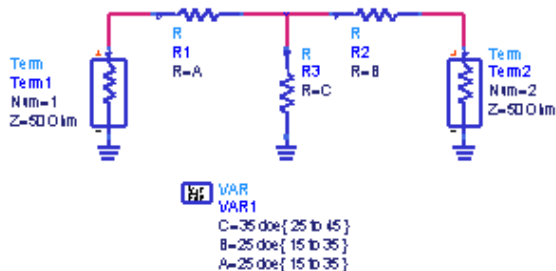

Figure 4-14. Schematic with Modified Var/Eqn Component
10. Click **OK**. The changes in the *Var/Eqn* component are reflected in the schematic. The new schematic should look similar to the one shown in Figure 4-14.